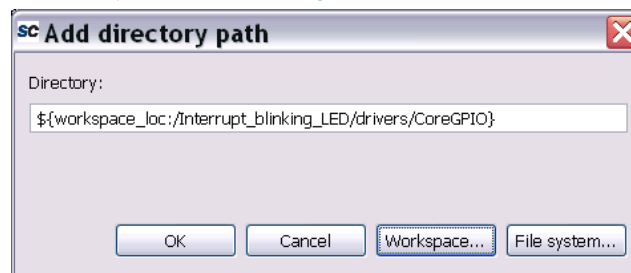

Figure 38 Add Directory Path
5. The window is displayed as shown in Figure 38. Click **OK**.